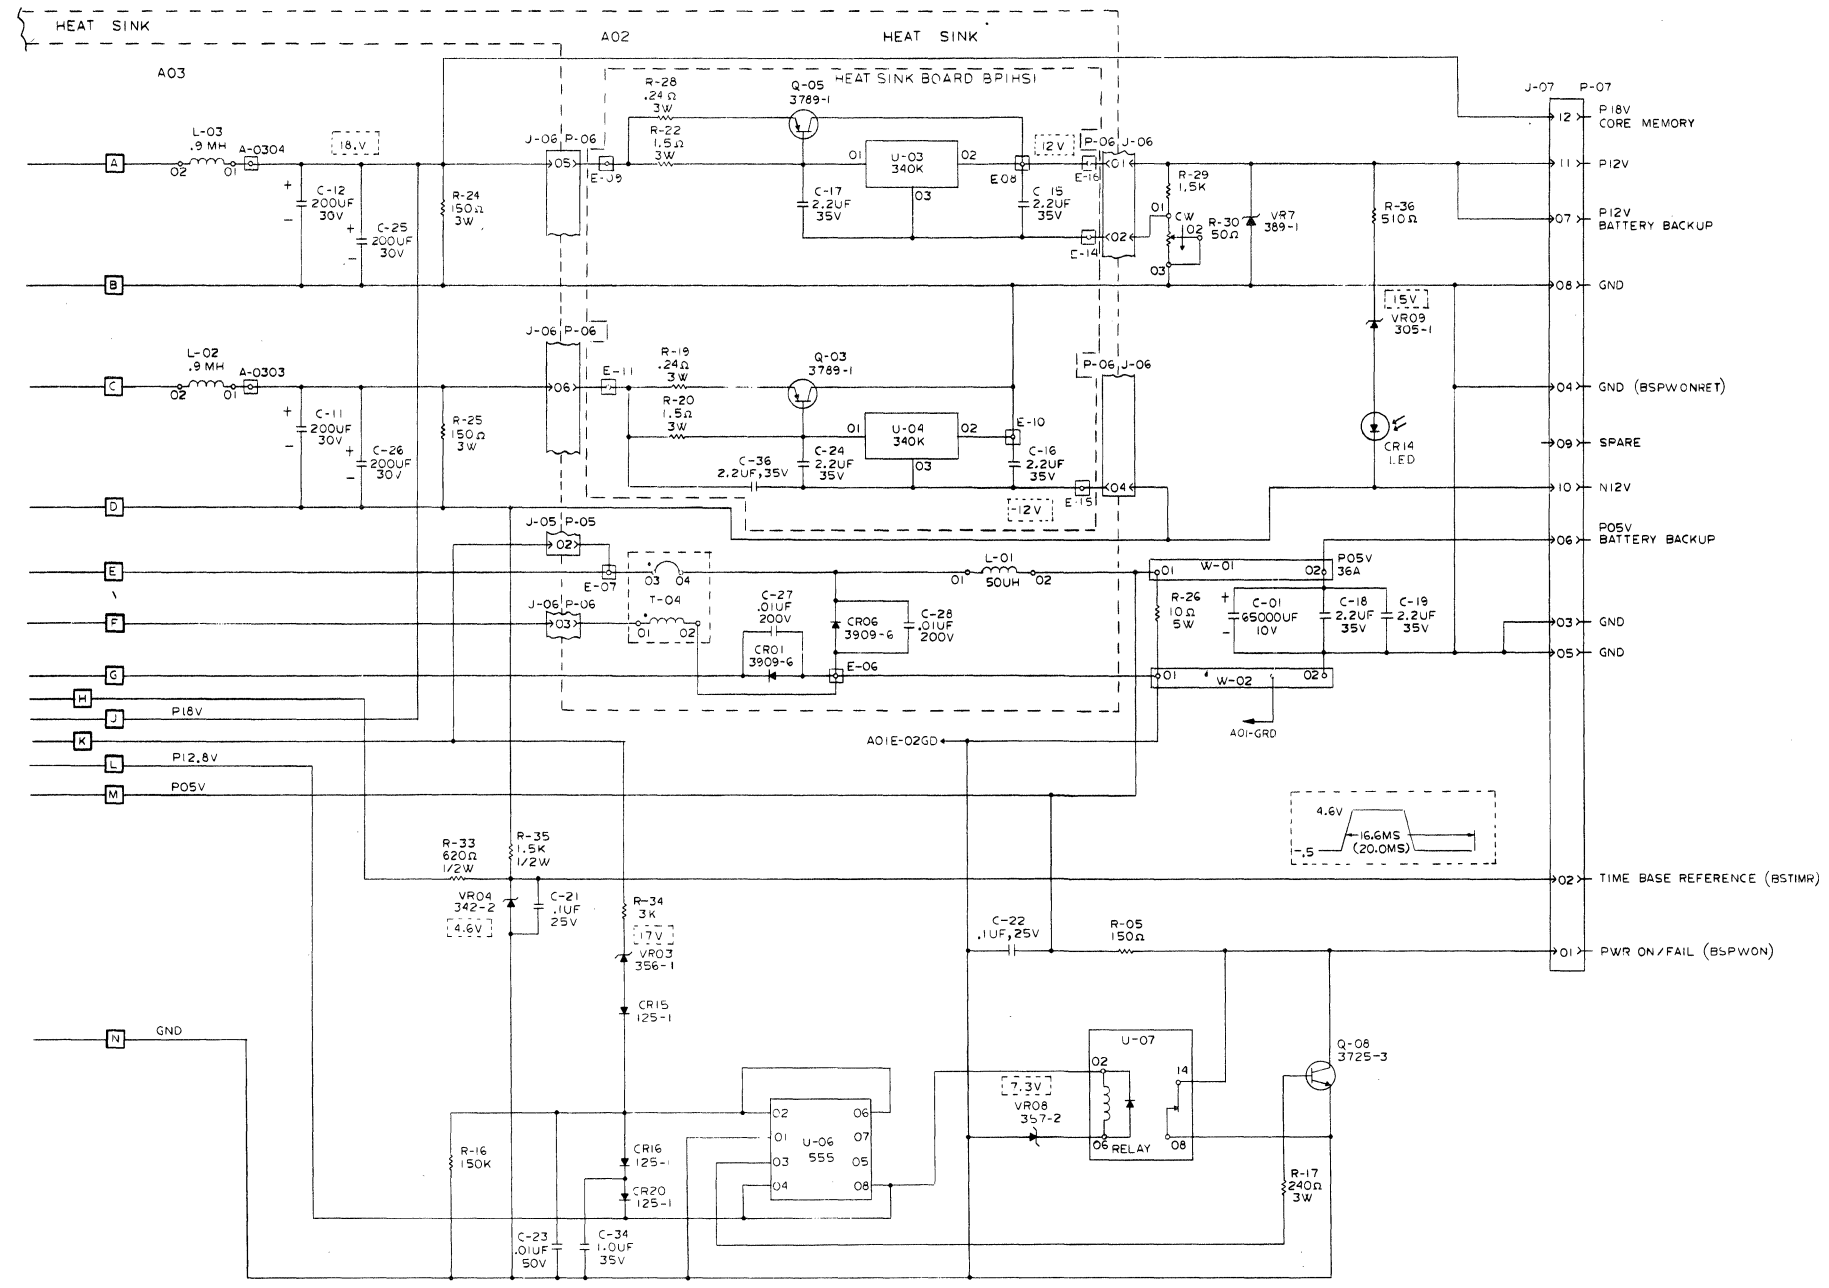

Figure 2-4 M100 Central System Power Supply Schematic Diagram (Sheet 2 of 2)
- Figure 2-4 M100 Central System Power Supply Schematic